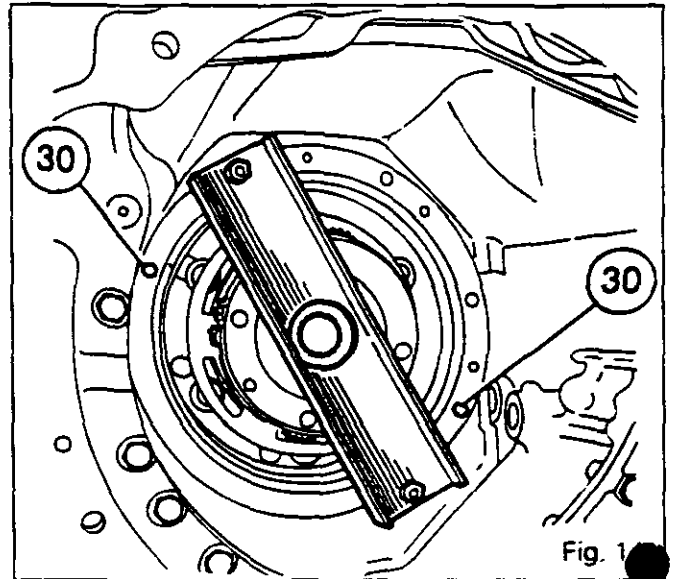
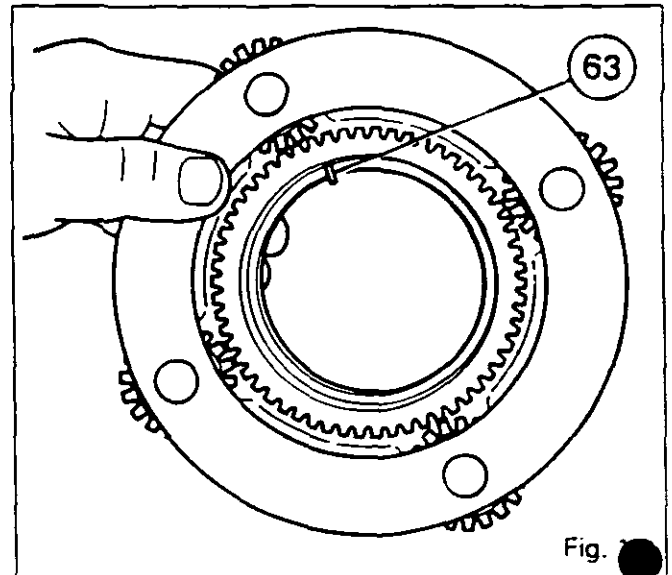

Fig. 14
Fig. 15
25. Compress the planetary carrier assembly using special tool 3376920 M1 (Fig.14).
26. Remove the retaining ring (72). Lift off the primary planetary carrier assembly.
27. Remove the secondary sun gear (61) and the retaining ring (49) (if necessary).
28. Remove the circlip (55). Remove the planetary carrier bearing (57) and the spacer (56).
29. Separate the secondary planetary carrier (39) from the primary planetary carrier (28).
30. Remove the retaining ring (60) and the bearing (58).
31. Place the secondary carrier in vertical position. Tapping lightly on a wooden block, remove the needles (63) (Fig.15). Separate the planetary carrier from the primary sun gear (64), with the ring (62) and the deflector (75).